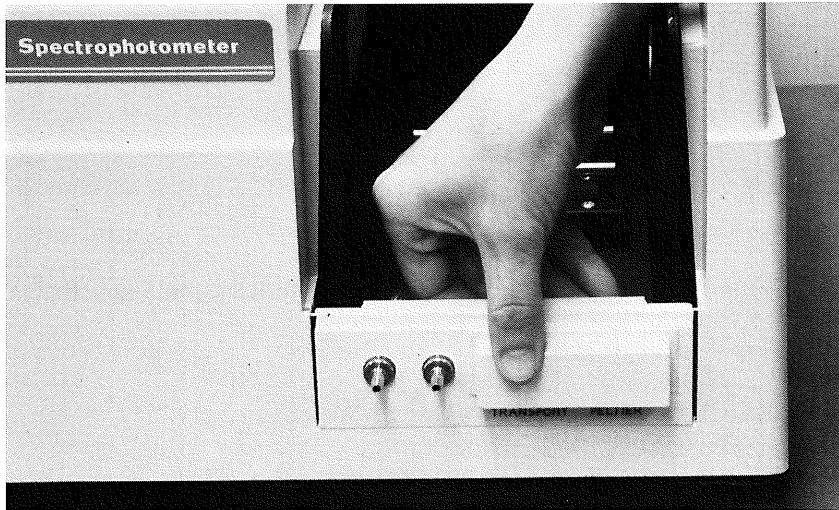

Figure 2.
2. Unplug any cables attached to the accessory panel on the front of the sample compartment. Remove the accessory panel by pushing in at the bottom and pulling up. See Figure 2.